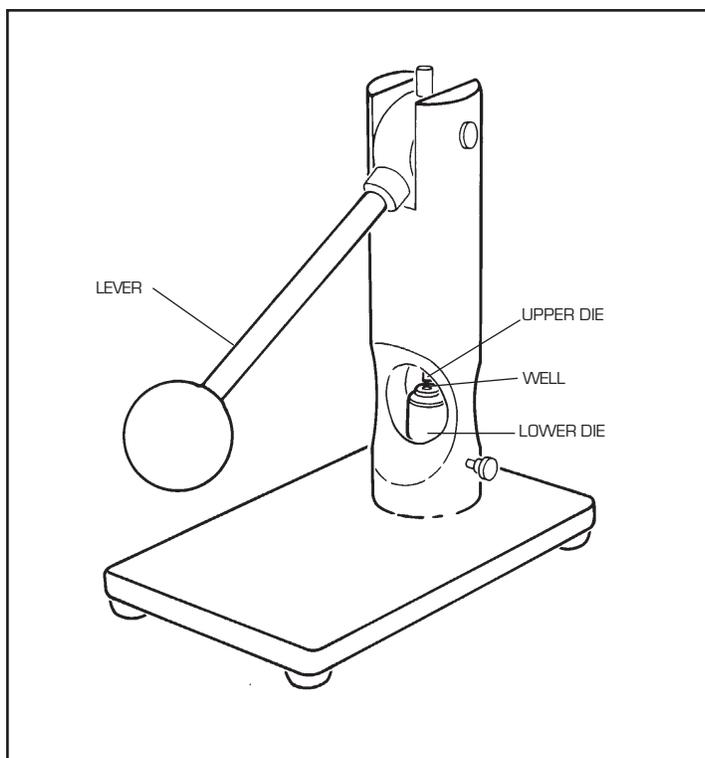

Figure 5.13
4. Place the pan in the well of the lower die of the sample encapsulating press (see Figure 5.13).